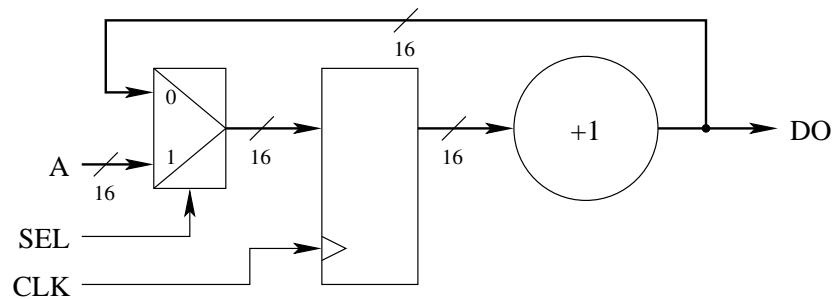

Figure 2: The *INC* digital circuit
- 1.2. We consider *INC*, a small digital circuit, represented on figure 2. *A* is a 16 bits primary input vector. *SEL* is a single bit primary input. *DO* is a 16 bits primary